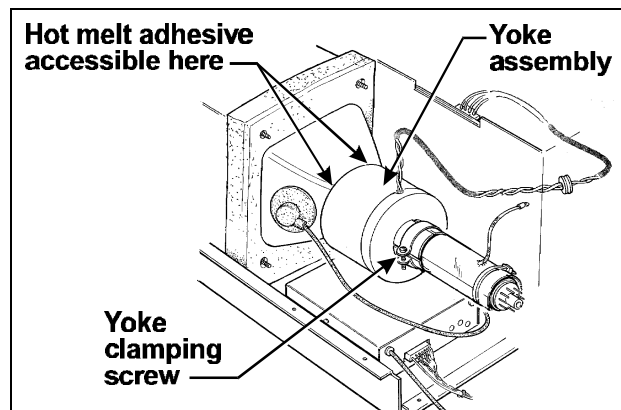

Figure 5-17. Yoke clamping screw and hot-melt adhesive
12. Loosen the yoke clamping screw (Figure 5-17).
13. Use a hot-melt glue gun to soften the hot-melt adhesive securing the yoke to the CRT (Figure 5-17) and gently twist the yoke to release the adhesive grip.
19. Using a torque-limiting nut driver, tighten the yoke clamp (Figure 5-17 on page 122) to 120 inch-ounces.